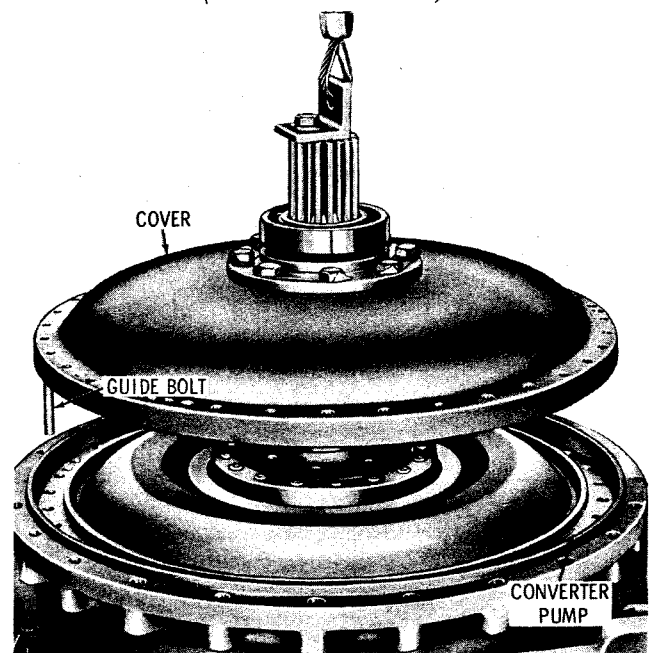

Fig. 7-43. Installing converter drive cover (remote-mount models)
(25) On remote-mount models, install a 3/8-24 headless guide bolt into the converter drive cover (fig. 7-43). Install the cover assembly onto the converter pump.